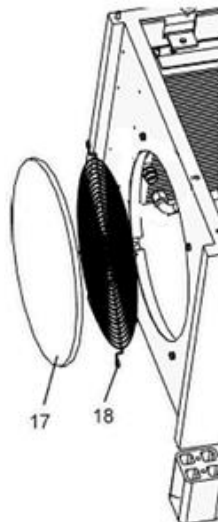

FIGURE 7-2 Pre-Filter and Fan Grill
1. Remove the central screw and washer securing the pre-filter to the grill assembly and remove the pre-filter media (17). See Figure 7-2 for component details. Note: do not remove the fan grill.